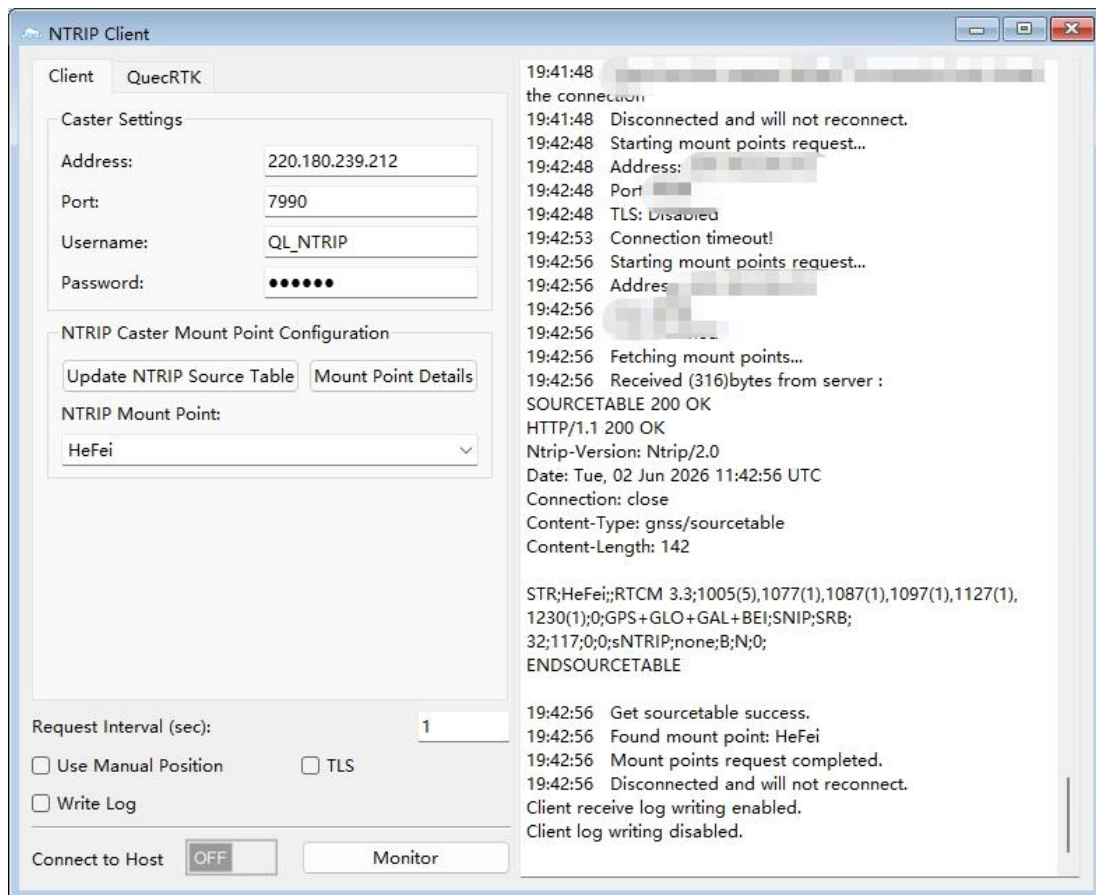

Figure 98: NTRIP Client
Step 1: Enter the Address, Port, Username and Password as shown in Figure 98: NTRIP Client. Contact Quectel Technical Support to get the username and password if necessary.